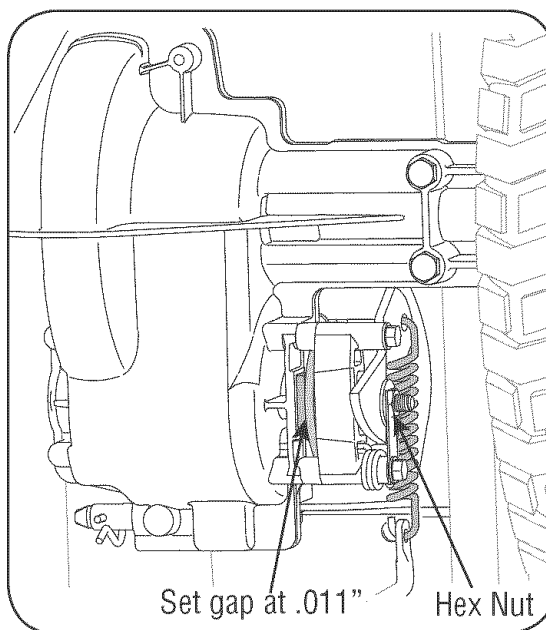

Figure 11
1. Looking at the transmission from the right side of the tractor, locate the compression spring and brake disc. See Figure 11.
2. Loosen, but do NOT remove, the hex nut found on the right side of the brake assembly. See Figure 11.